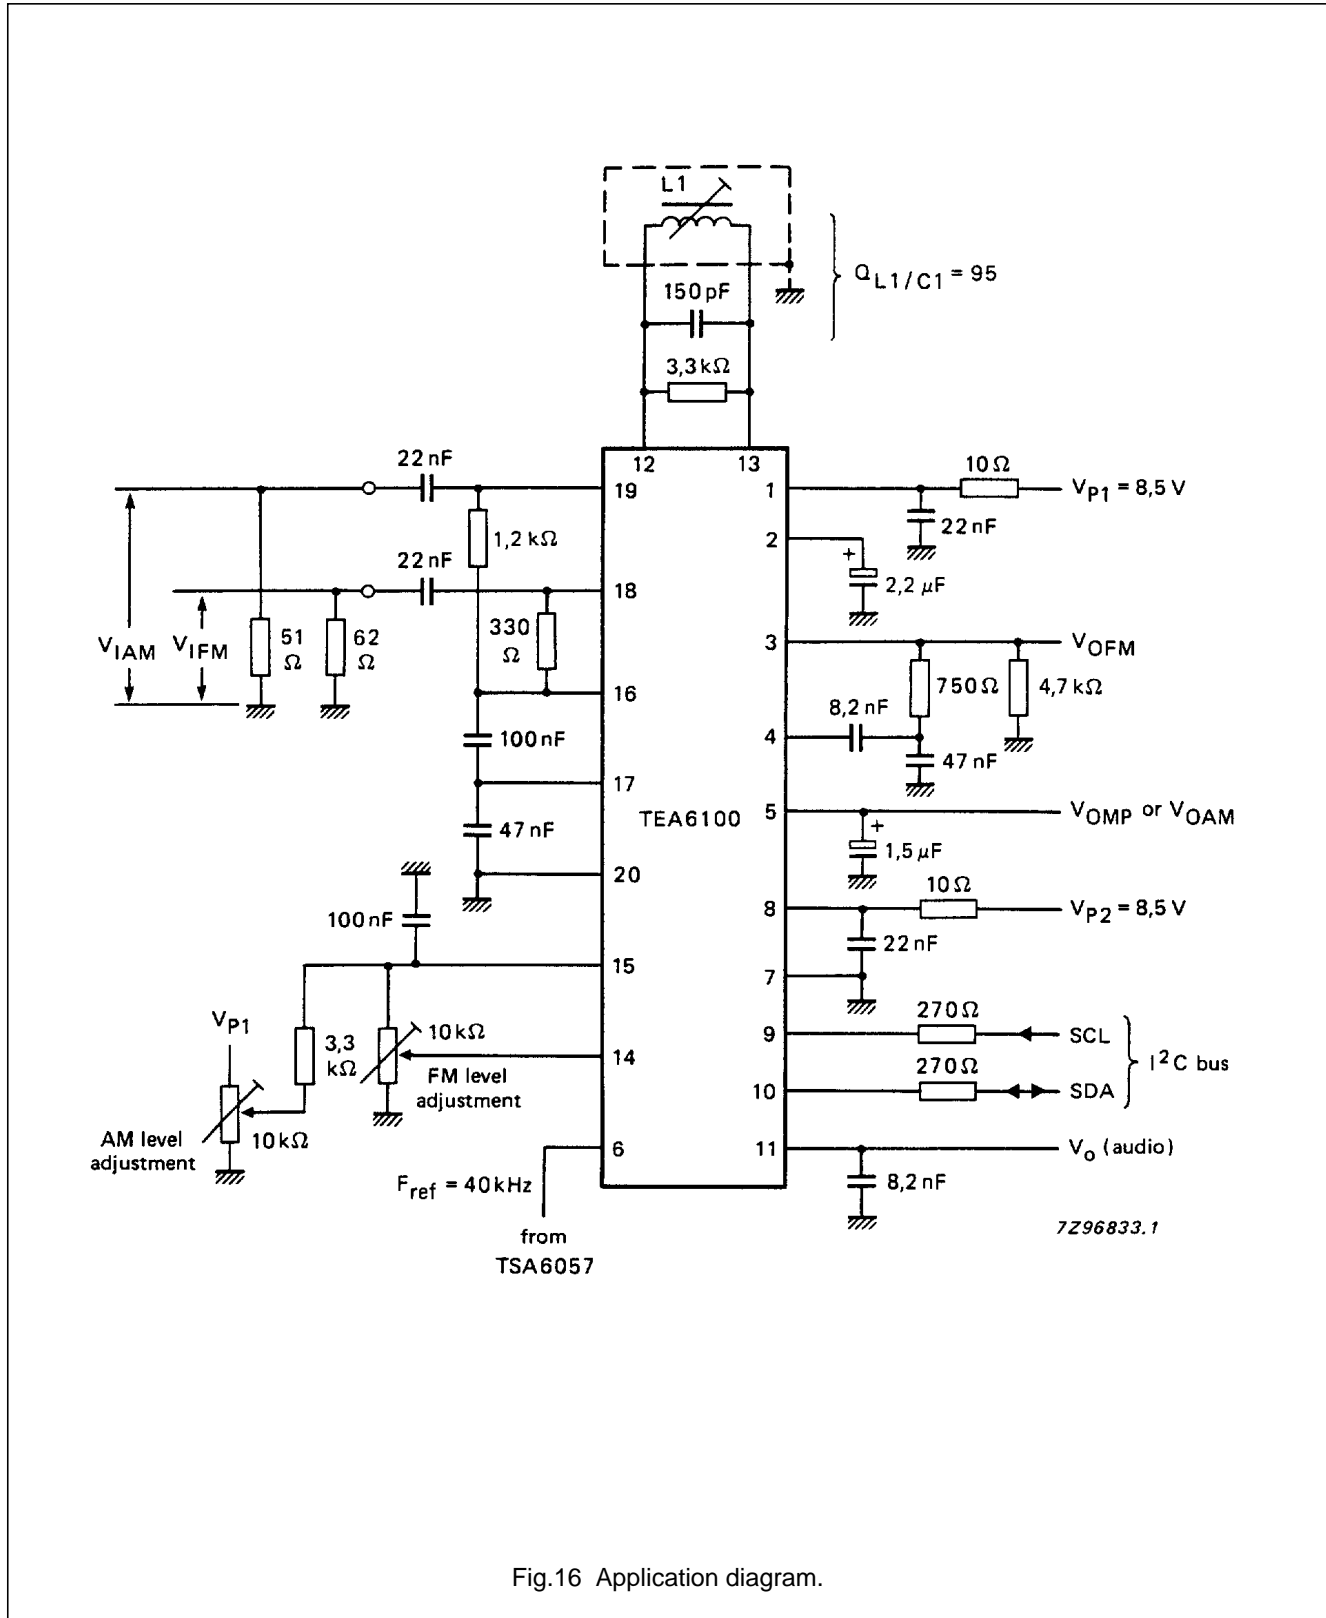

Fig.16 Application diagram.
1. All characteristics are measured from the circuit shown in Fig.16.